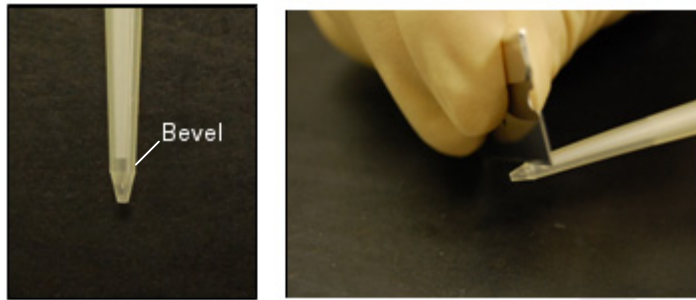

Figure 26 Cutting the Combitip Plus tip for emulsion dispersion.
10. Remove a 5-mL Combitip Plus tip from its packaging, then cut off its end at the bevel with a razor blade (see Figure 26 on page 42).